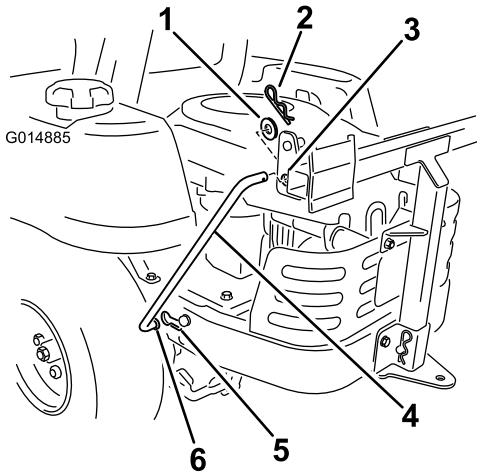

Figure 15
5. Install two support rods, one to each side of the bagger frame. Locate the existing keyed slot in the machine frame and install the bent, flared end of the rod into that slot (Figure 15). Move the rod rearward to seat it in the frame.
6. Insert the bent ends of the rod into the bagger frame as shown in Figure 15. Secure the end of the rod with a washer and hair pin.